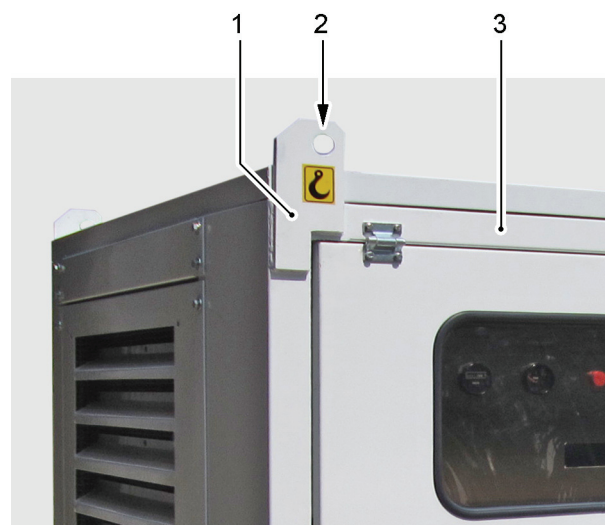

Figure 4.5 - Generator hooking
- 1) Hook suitable ropes into the purposed holes (see Figure 4.5/2) machined on the four plates (1) situated on the generator (3) upper part.
- 2) Hook the ropes' other end to the crane block and carefully hoist, by making sure that the generator (3) get correctly lifted.